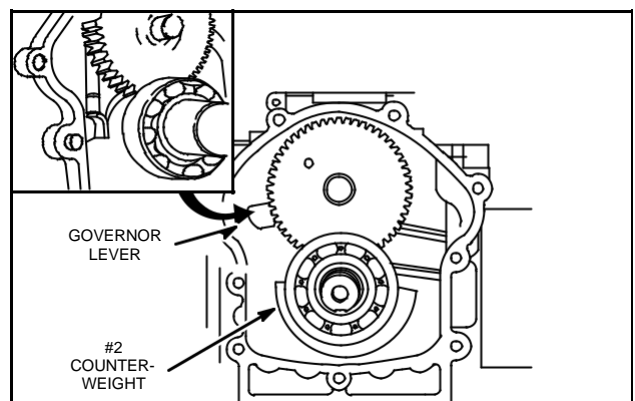

Fig. 13 – Remove Governor Lever, Ball Bearing Engines
2. Loosen governor lever nut and remove governor lever, Fig. 13.